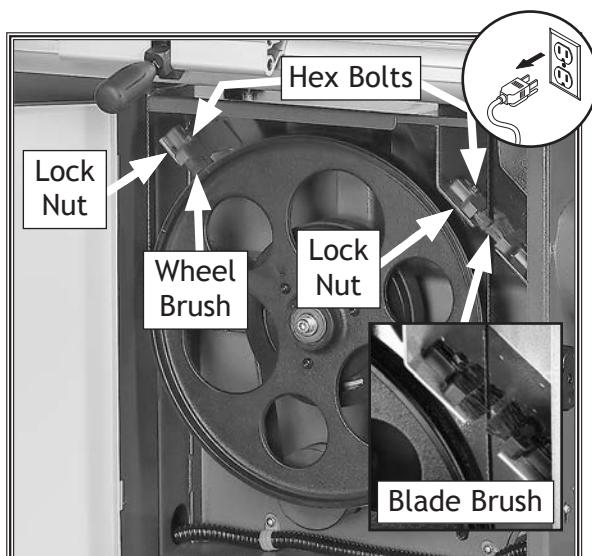

Figure 93. Location of wheel and blade brushes.
The lower wheel has brushes (see Figure 93) that are designed to sweep sawdust off the wheel and blade during operation. In order to work properly, the brushes must make firm contact with the wheel.
3. Loosen hex bolts and lock nuts that secure wheel brushes in place (see Figure 93).